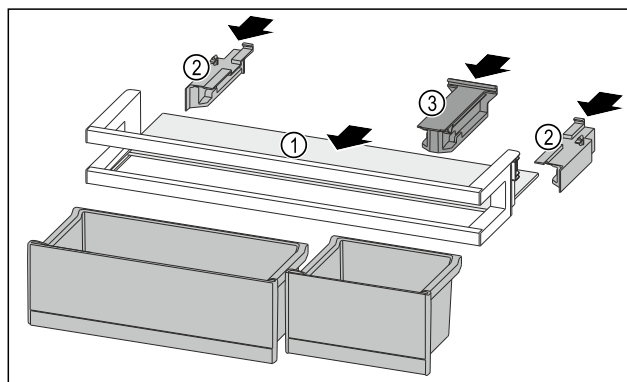

Fig. 179
- Push the shelf Fig. 179 (1) into the side recesses.
- Insert the side parts Fig. 179 (2).
- Insert the holding part Fig. 179 (3).